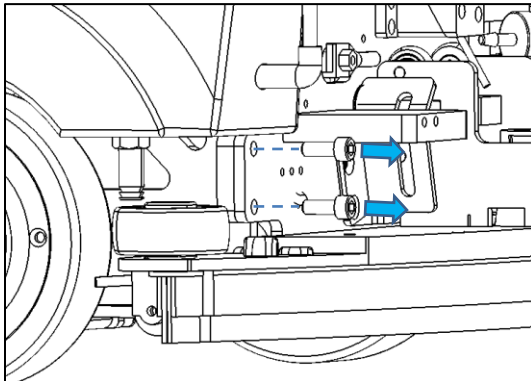
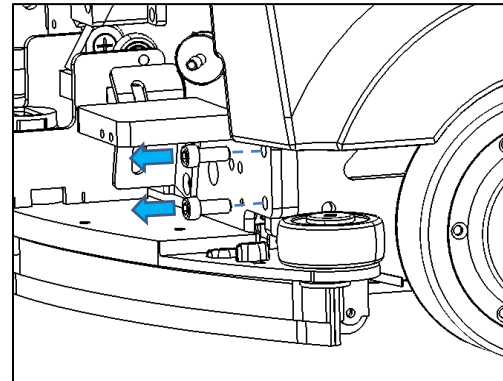

Fig. 5
Fig. 6
4. Unscrew the four screws located at the side of the backplate (Fig. 5 – Left, Fig. 6 – Right) and remove the backplate (Fig. 7 – 1).